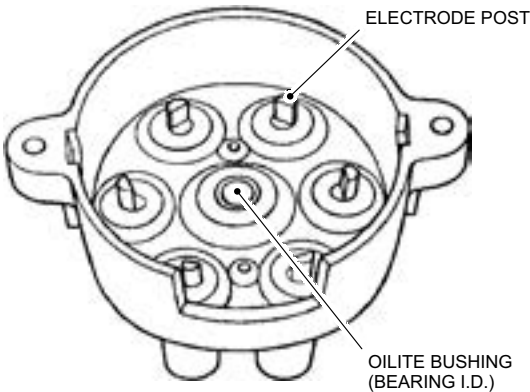

Figure 3.3.9
- 2. Inspect the brass electrode posts for signs of physical wear. Replace the block assembly as necessary. During normal operation, the post will experience an electrical-metal transfer with the distributor gear electrode. This condition is normal and not cause for rejection. (See Figure 3.3.9).